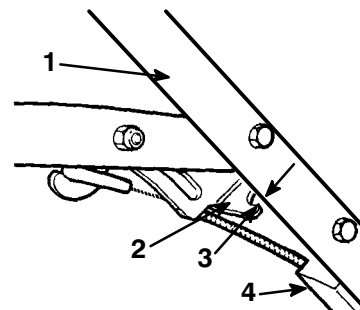

Figure 34
- Loosen the nut on the cable bracket (Fig. 34).